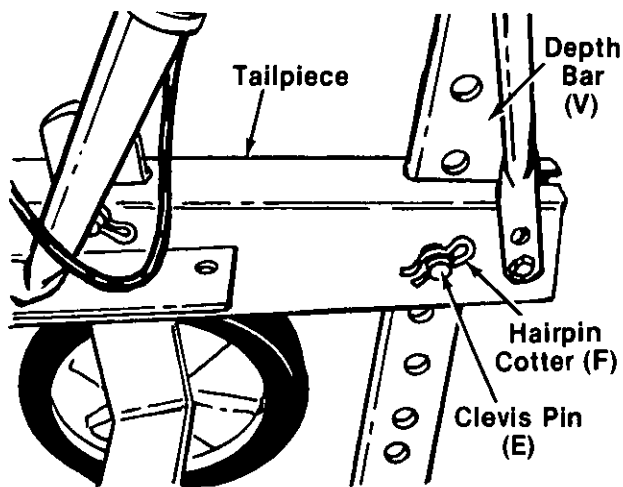

FIGURE 19.
- Place the depth bar (V) in position on the tailpiece. Secure with clevis pin (E) and hairpin cotter (F). See figure 19.